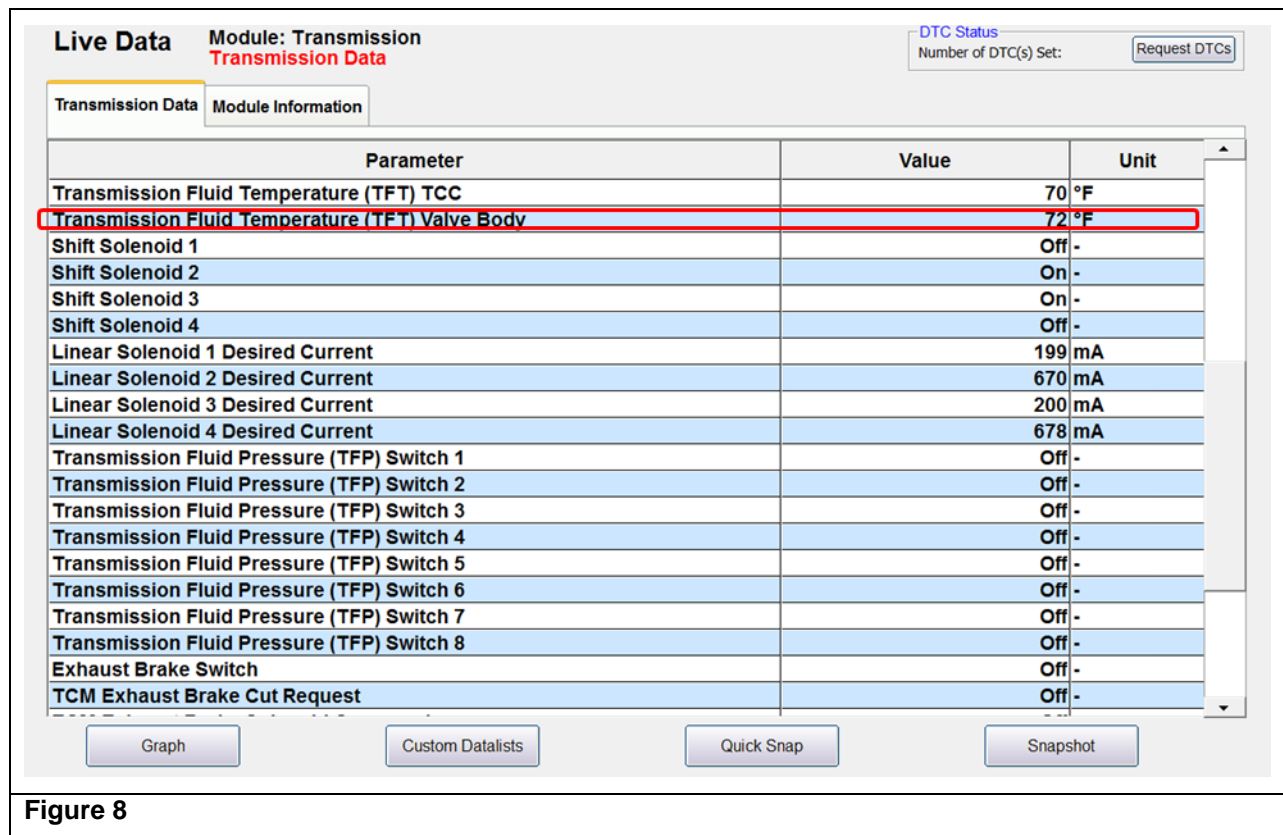

Figure 8
- (1) Proper distance between bead and clamp
- (2) Blue or white band is beyond the bead
- (3) Blue or white band is not beyond the bead
- (4) Clamp is too close to the bead
- (5) Clamp is on top of the bead
- 9. Connect IDSS and navigate to the transmission control module data list and check the “Transmission Fluid Temperature (TFT) Valve Body” parameter (see Figure 8).